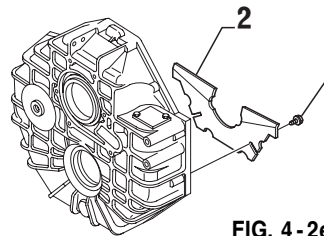

FIG. 4-2e
4.2.2 Installation of baffle (Fig. 4-2e)
Put one drop of Loctite 242 on the screw thread (item 1) and screw baffle plate (item 2) into the housing. After tightening the screws bend plate lugs when present over the hexagon of screws (see fig. 4-2e).